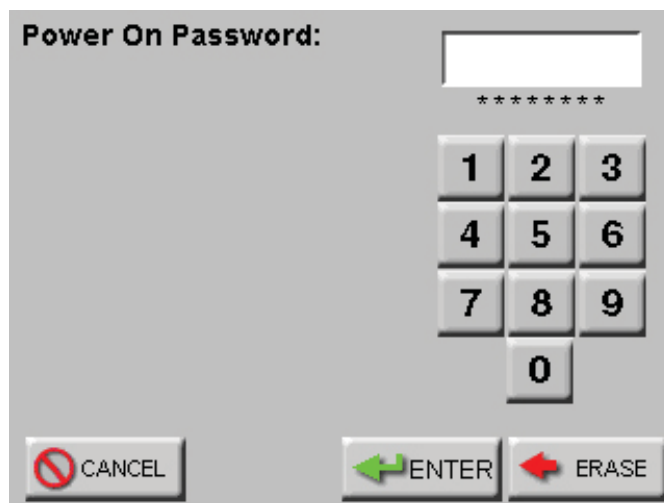

Figure 6-68 POWER ON Password Access Screen
- Press the ENTER button to save and return to the previous screen. See Figure 6-68.